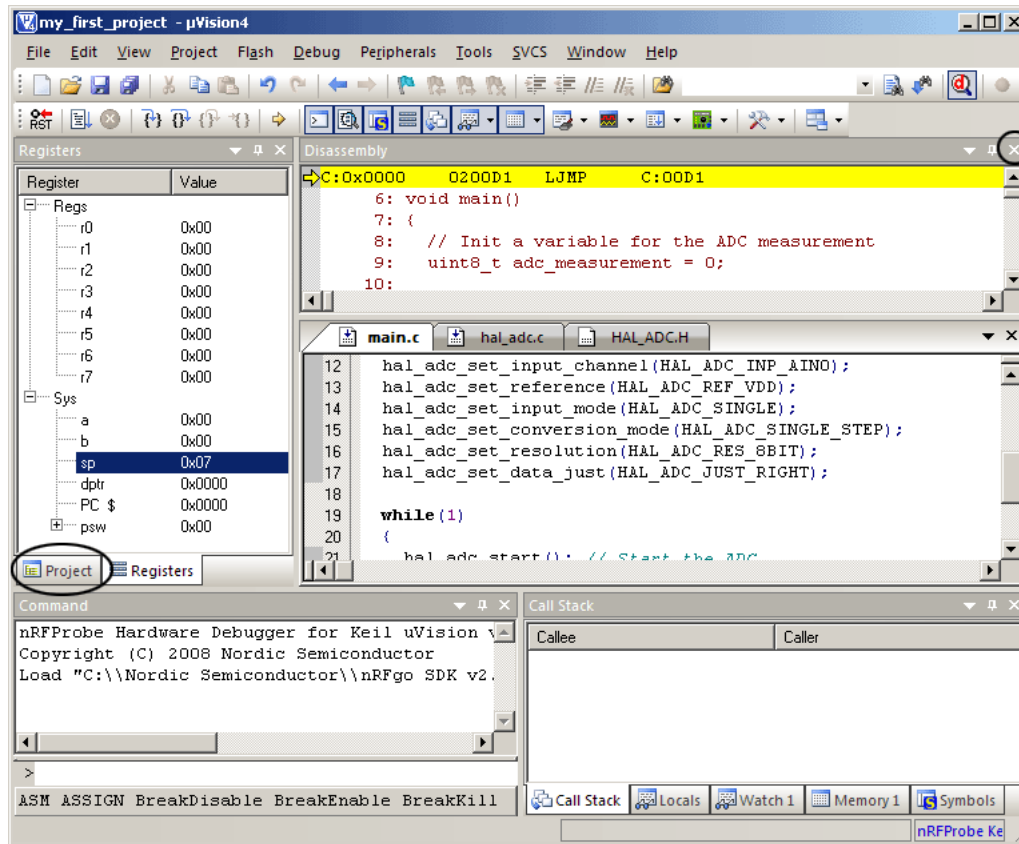

Figure 33. Default debug window
3. To simplify the project window, you can exit the disassembly window for the purposes of this application note. (See the encircled area in Figure 33. on page 29 for how to exit the window. You can open it again later from the **View** menu at the top.) Also select the "Project" tab which is shown on Figure 33. on page 29 to see all project files.